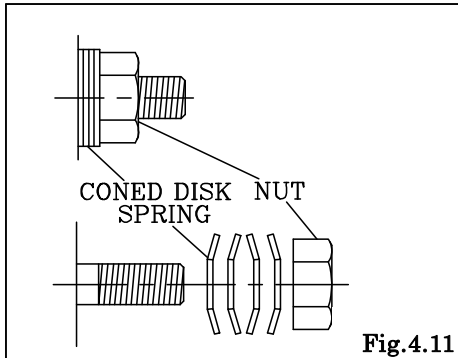

Fig.4.11
- Make sure that the directions of each coned disk spring are correct. [Fig.4.11]